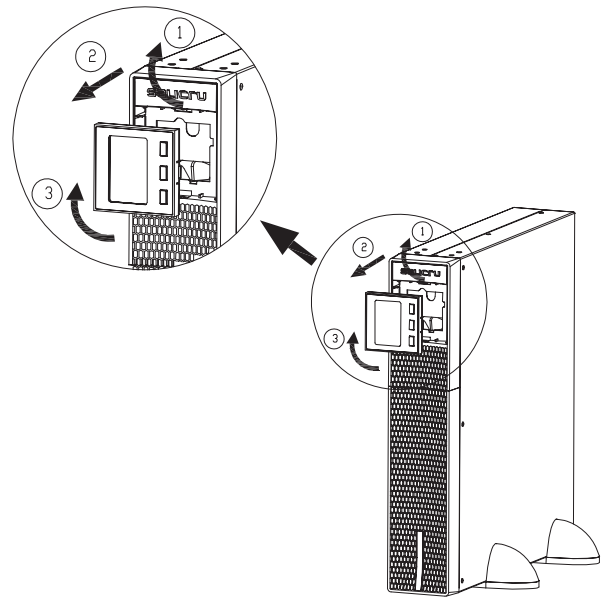

Fig. 7. Rotation of the control panel with LCD display on the plastic front trim.
- The device is initially set up at the factory for installation as a rack. To facilitate the reading of messages on the display when the device is installed vertically, it is advisable to rotate the control panel clockwise by 90° (see Fig. 7).